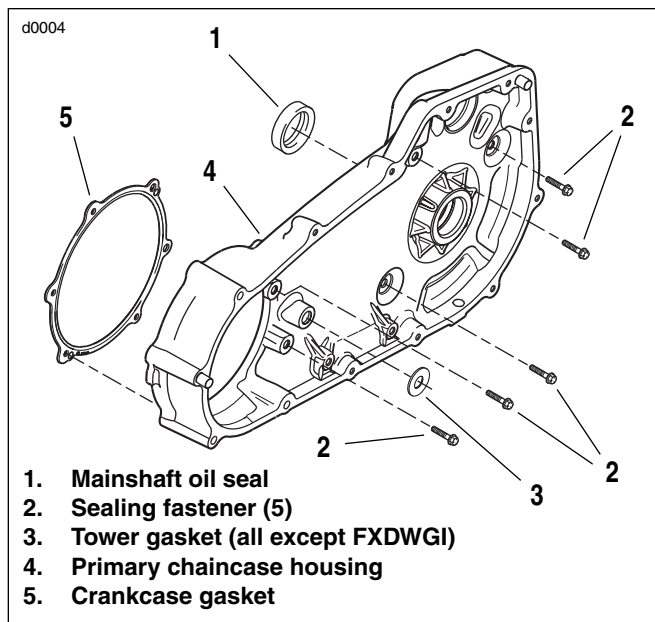

Figure 7. Primary Chaincase Housing
13. See Figure 7. Remove five sealing fasteners (2) securing primary chaincase housing (4) to engine crankcase and transmission. Remove primary chaincase housing from vehicle. Discard crankcase gasket (5).